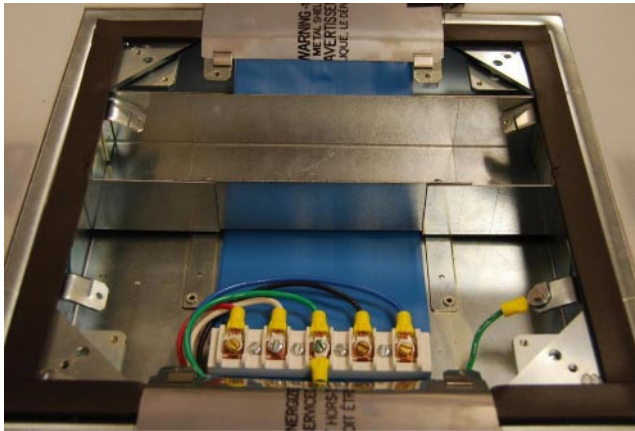

Figure 4
assembly outward toward the outer edges of the floor box so that no gaps remain between the assembly and the walls of the floor box. Secure the separator plate assembly to the floor box using two 6–32 x 1/4 in. pan head separator plate assembly hold-down screws provided. After the separator plate assembly is secured to the floor box, install the communications or data cable inside the trough of the separator plate assembly. See Figure 4.
- Added new photograph to Figure 4